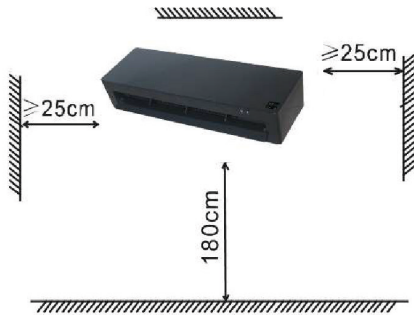

FIGURE 1
1. Select a space for installing the appliance (figure 1).